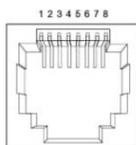

Figure 4
- Insert the top of the DIN-Rail on to the track as shown below in Figure 4.